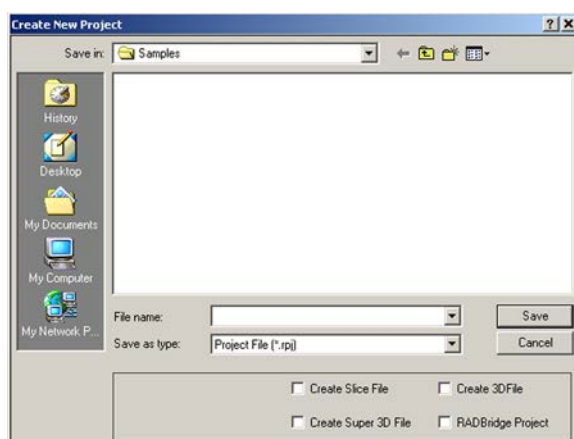

Figure 120: Create New Project dialog box.
- 2 Choose File > New and the Create New Project dialog box (Figure 120) will appear.